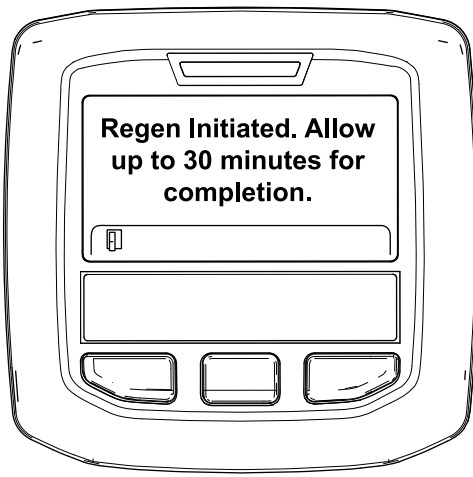

Figure 49
- If the regeneration is allowed, the "Regen Initiated. Allow up to 30 minutes for completion" message displays in the InfoCenter, wait for the machine to complete the parked regeneration process (Figure 49).